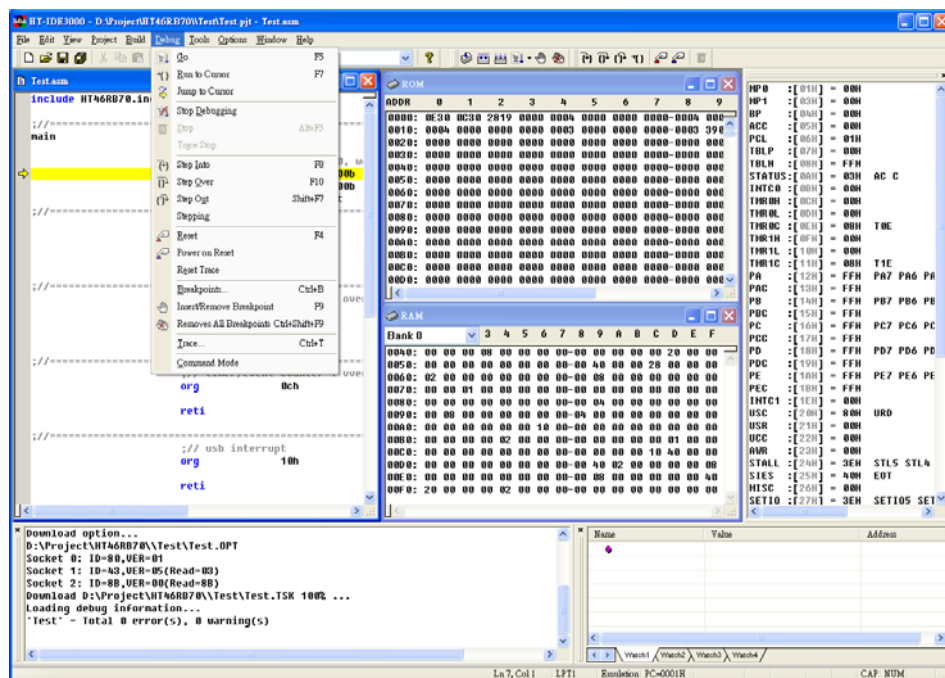

Fig 5-2
- Software reset command in the HT-IDE3000 Debug menu (Fig 5-2)
- Software power-on reset command in the HT-IDE3000 Debug menu (Fig 5-2)